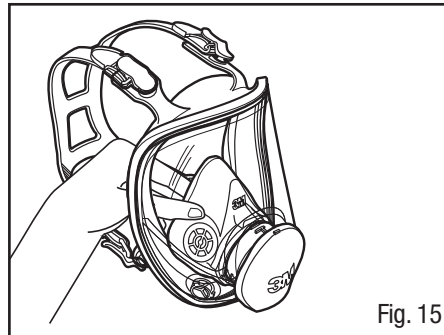
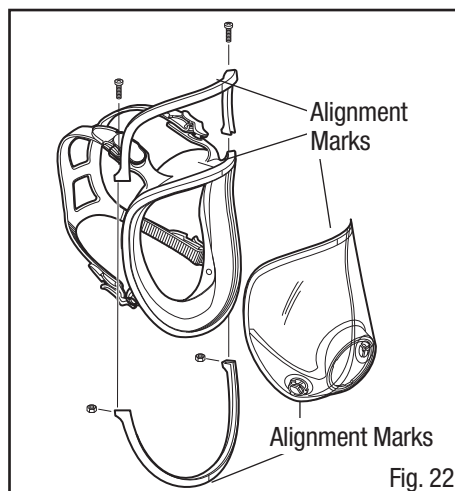

Fig. 15
Fig. 22
1. Remove nose cup assembly by pulling away from center adapter inside facepiece (Fig. 15).
1. Remove the nose cup assembly by pulling away from center adapter inside facepiece (Fig. 15).
1. Remove nose cup assembly from inside facepiece (Fig. 15).
3. Remove the (2) Phillips screws from the lens/facepiece frame. Pull the frame top and frame bottom away from facepiece.
5. Place new lens and facepiece together aligning marks at top and bottom. Position top and bottom frame, again aligning marks top and bottom. Install and securely tighten screws. Make certain alignment marks are properly aligned top and bottom with all components (Fig. 22).
2. Position bottom frame, aligning center vertical mark, and press in place (Fig. 22).